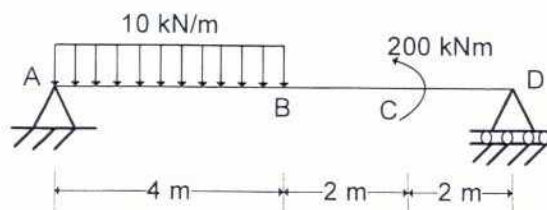

Figure 5
- Q5 Determine the mid-span deflection and slope at support ' $A$ ' in the simply supported beam shown in **Figure 5**. The beam section is rectangular  $200 \text{ mm}$  wide  $\times$   $300 \text{ mm}$  deep. (Take  $E = 200 \text{ GPa}$ ) (20)